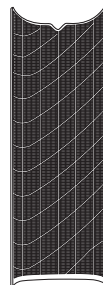

Figure 4
3. Remove entirely the filter, then run a vacuum cleaner nozzle over the disassembled guard grid, the appliance rear cover and on the two sides of the filter (Figure 4).